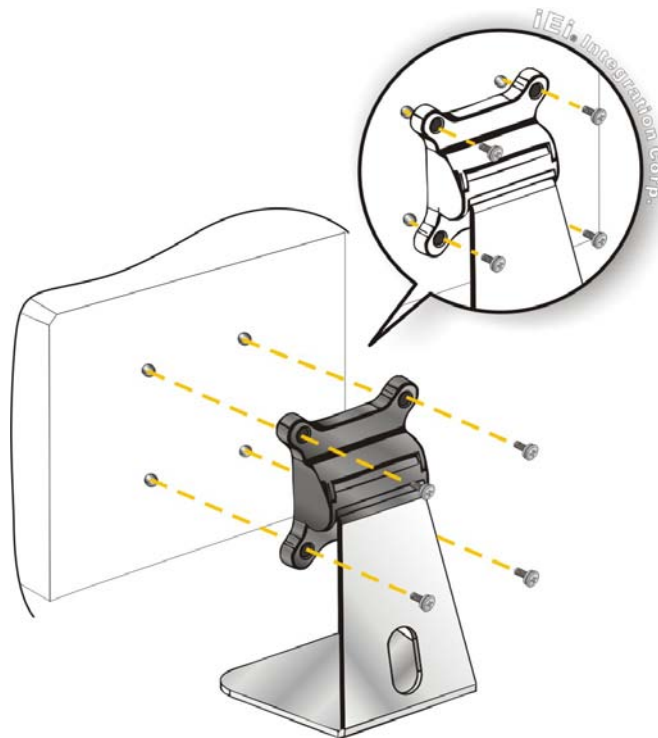

Figure 3-29: Monitor Stand Mounting
- Step 2:** Secure the monitor to the stand with the supplied retention screws (**Figure 3-29**).